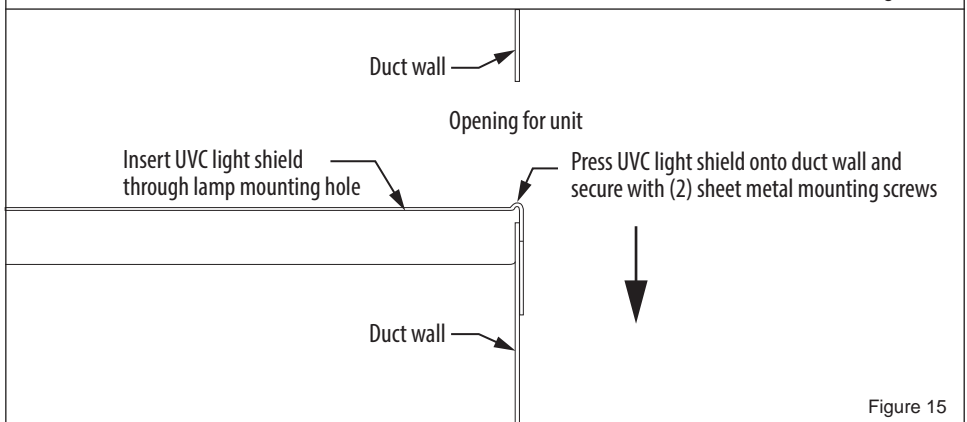

Figure 15
- Press shield onto duct wall. Then secure with (2) sheet metal mounting screws (Figure 15).